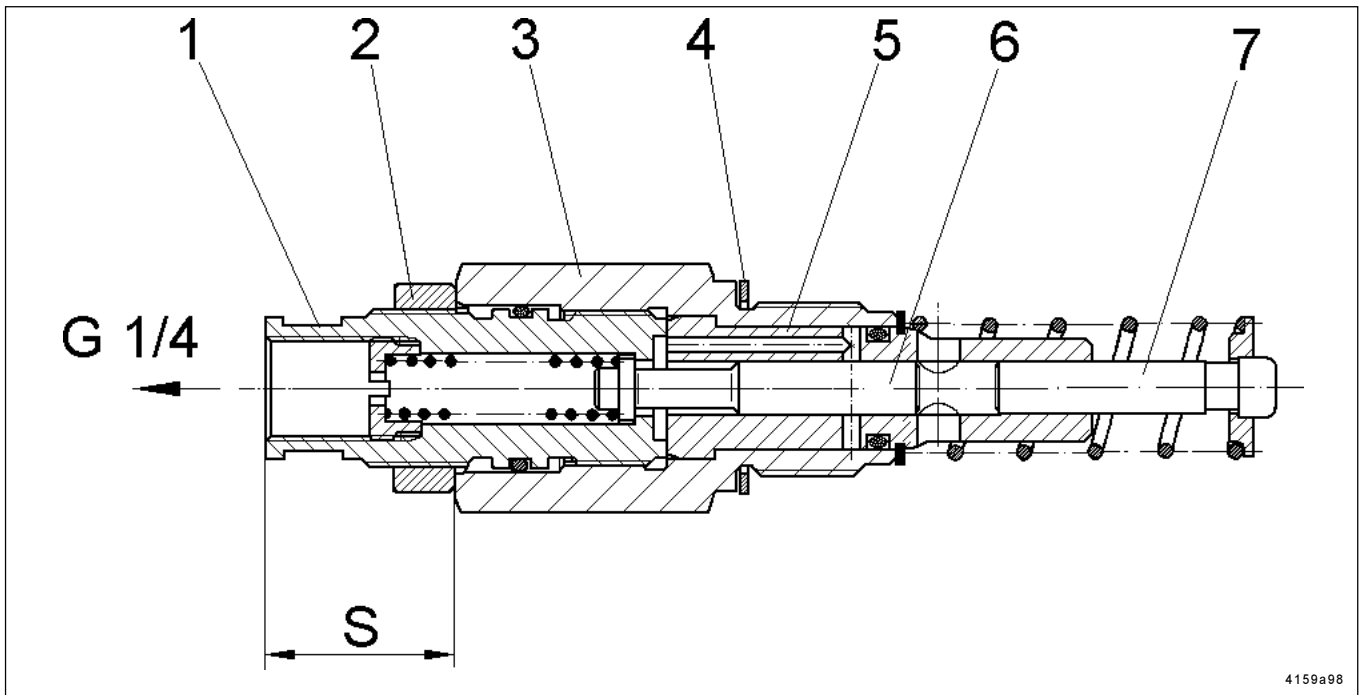
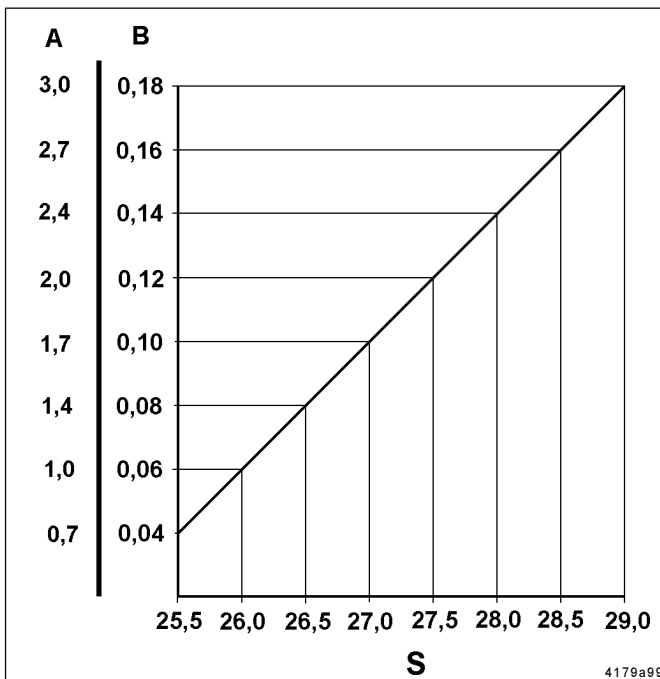

Fig. 12 - Sectional view: Adjustable pump element
Fig. 13 - Delivery diagram
- The pump elements are factory-set to the maximum lubricant output whereby the adjusting size „S“ should be 29 ± 0.1mm (fig. 12).
- \* Loosen counter nut (2, fig. 12) while holding in position pump element body (3) by means of a second wrench.
- \* Adjust the regulating spindle (1) by means of a wrench, see output diagram (fig. 13)
- \* The size „S“ (see fig. 12) for the desired lubricant output can be ascertained by using the delivery diagram shown in fig. 13.
- \* Unscrew the adjusting spindle (1, fig.12) out of the pump element body (3) until „S“ is approx. 30 mm.
- \* Screw counter nut (2) onto stop collar of the adjusting spindle (1).
- \* Screw adjusting spindle (1) with counter nut (2) into pump body (3) until stop.
- \* Dimension „S“ must be adjusted to the desired value in accordance with the delivery diagram (fig. 13).